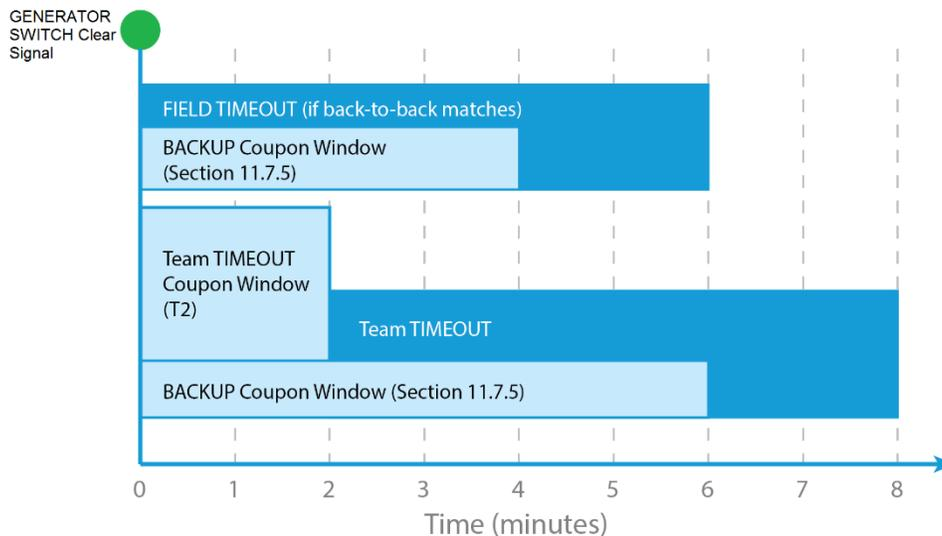

Figure 11-4 TIMEOUT Timeline
- T2.** If an ALLIANCE wishes to use their TIMEOUT, the ALLIANCE CAPTAIN must submit their TIMEOUT coupon to the Head REFEREE within two (2) minutes of the GENERATOR SWITCH Clear signal preceding their MATCH. If there is no preceding MATCH, the TIMEOUT coupon must be submitted no later than two (2) minutes before the scheduled MATCH time. The TIMEOUT will begin two (2) minutes after the GENERATOR SWITCH Clear signal (i.e. at the end of the Team TIMEOUT Coupon Window depicted in Figure 11-4)